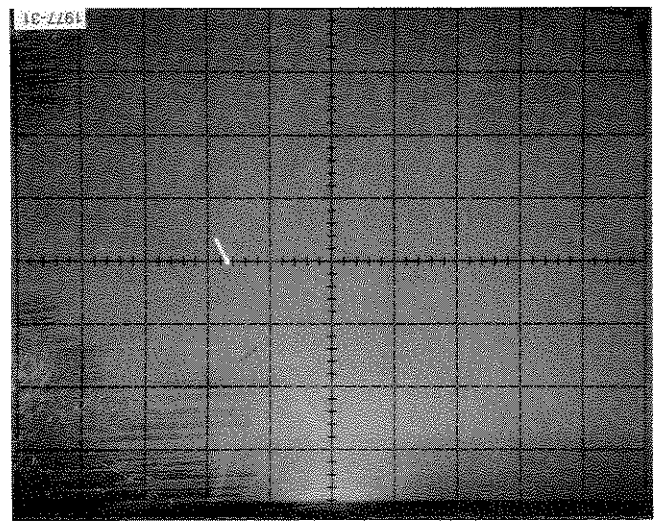

Fig. D-2. Typical input offset voltage display.
- b. Turn the Offset Mult control on the 577 to bring the display back to the zero reference line established in the Preliminary Procedure (see Fig. D-2).